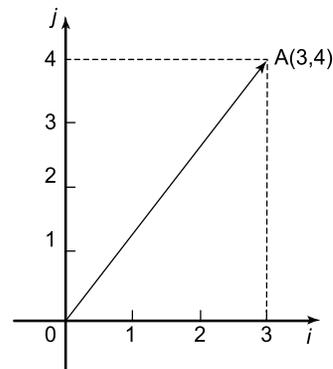

Figure 4.3
- (vi)  $xi + jy$ , where  $i$  and  $j$  are axes at right-angles to each other; for example,  $3i + 4j$  means 3 units in the  $i$  direction and 4 units in the  $j$  direction, as shown in Figure 4.3.
- (vii) a column matrix  $\begin{pmatrix} a \\ b \end{pmatrix}$ ; for example, the vector  $OA$  shown in Figure 4.3 could be represented by  $\begin{pmatrix} 3 \\ 4 \end{pmatrix}$
Thus, in Figure 4.3,